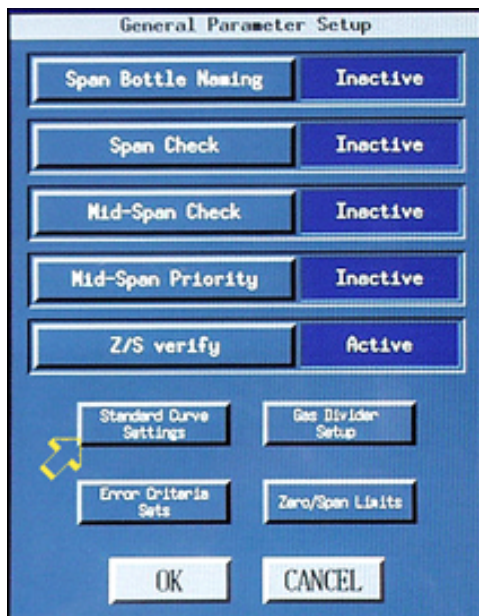

Figure 17
- 124 On the “General Parameter Setup” panel, click on the “Standard Curve Settings” button. See the circle in Figure 17.